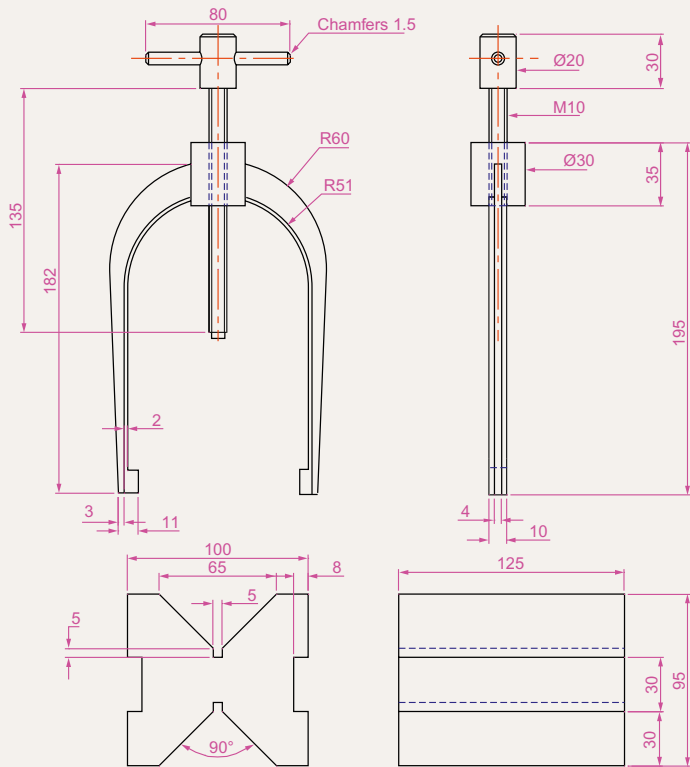

Fig. 19.21 Exercise 2 – orthographic projection
2. Fig. 19.20 shows a rendering of the model for this exercise and Fig. 19.21, an orthographic projection, giving shapes and sizes for the